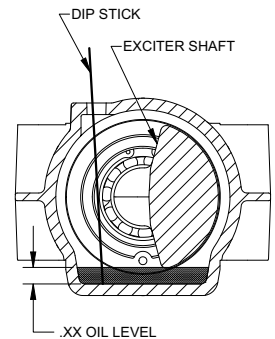

FIGURE 3
9. Rotate exciter shaft so a metal dip stick can be inserted into exciter (see Figure 3).
10. Place a clean metal rod through the oil fill hole as shown in figure 3.